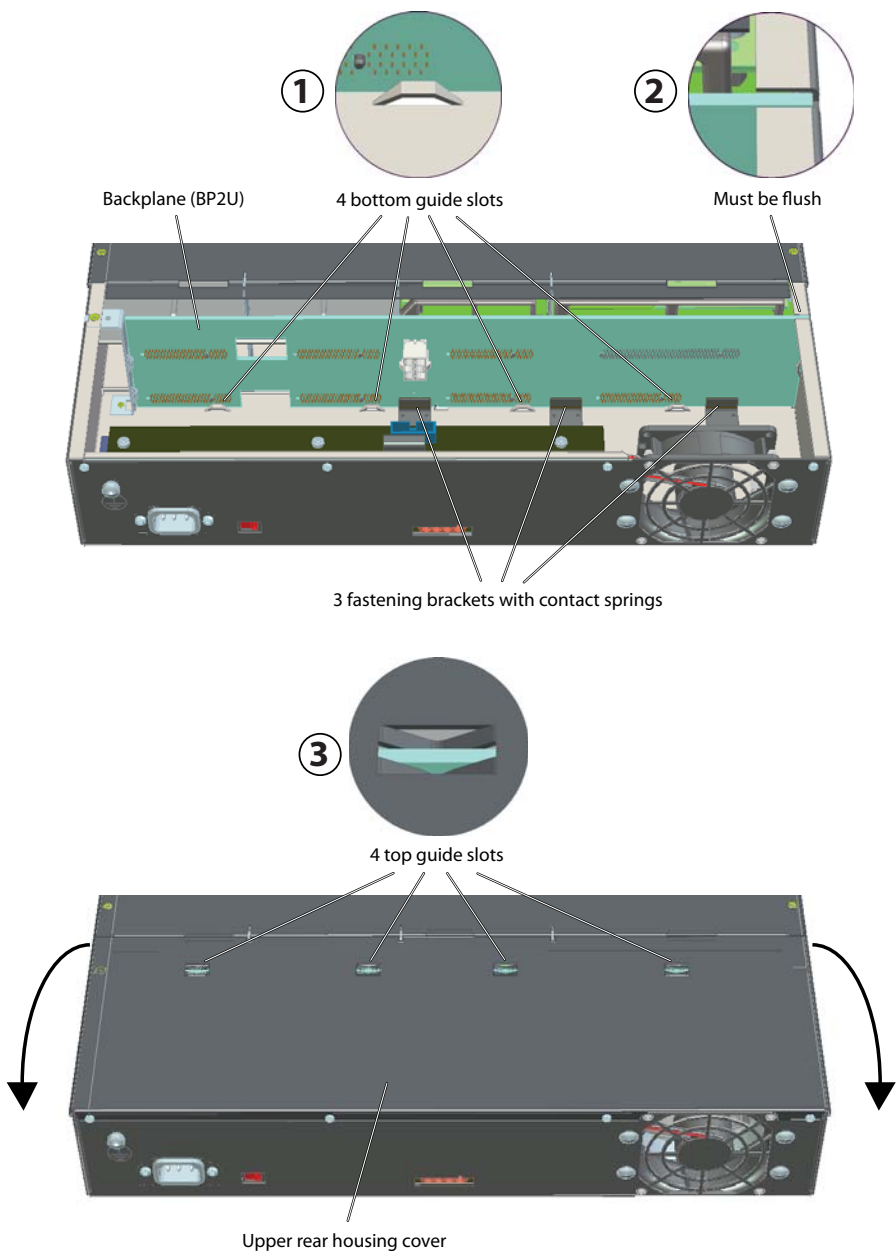

Fig. 20 Correct sitting of backplane BP2U
6. Fit the upper rear housing cover. In so doing follow the instructions on how to ensure that the backplane BP2U sits correctly, on page 105 and the corresponding diagram (Fig. 20).
- Check that the backplane is sitting properly in the 4 lower guide carriages. In any case, you must press down the backplane slightly since the contact springs create a certain counter-pressure behind the mounting brackets (see ① in Fig. 20).
- Check whether the backplane does not protrude from the upper part of the housing (see ② in Fig. 20).
- While closing the upper rear cover, check that the backplane is sitting correctly in the 4 upper guide carriages. It should be possible to close the cover without strain and without bending it (see ③ in Fig. 20).